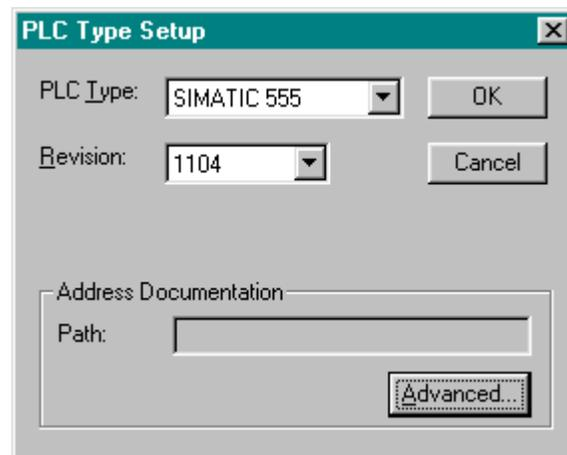

Figure 5.1
Result: The PLC Type Setup dialog box appears (Figure 5.1).
**Result:** The PLC Type Setup dialog box appears (Figure 5.1).